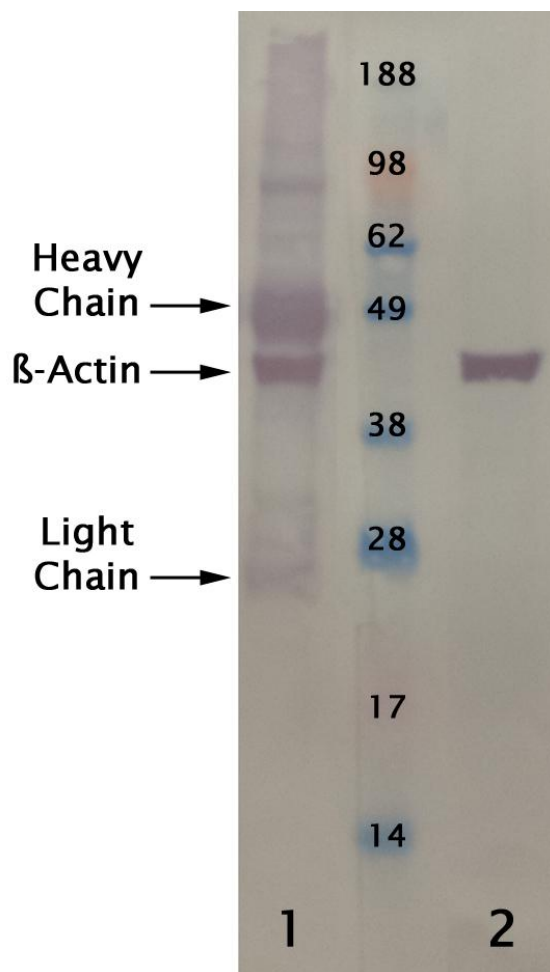

Figure 1. Detection of actin from HeLa whole cell lysate mixed with monoclonal antibody.
The technique of immunoprecipitation (IP) is used to isolate a protein of interest by capturing it with a resin-immobilized antibody specific for that protein. Typically, proteins are eluted from agarose beads under denaturing conditions that also release the IP antibody into solution, and then the protein of interest is detected by Western blotting. In many cases, the antibody used for IP must also be used for immunoblot detection of the protein of interest resulting in massive background due to the unwanted detection of heavy and light chain antibodies (Figure 1).
Cell Biolabs' Pure-IP™ Western Blot Detection Kit circumvents this common IP Western problem by using a proprietary HRP conjugate that cannot bind to contaminating heavy or light chains in the immunoblot lane of interest (Figure 1). The conjugate is only capable of detecting the antibodies that are properly folded and bound to the protein of interest during the immunoblot procedure resulting in a cleaner detection of the protein of interest.